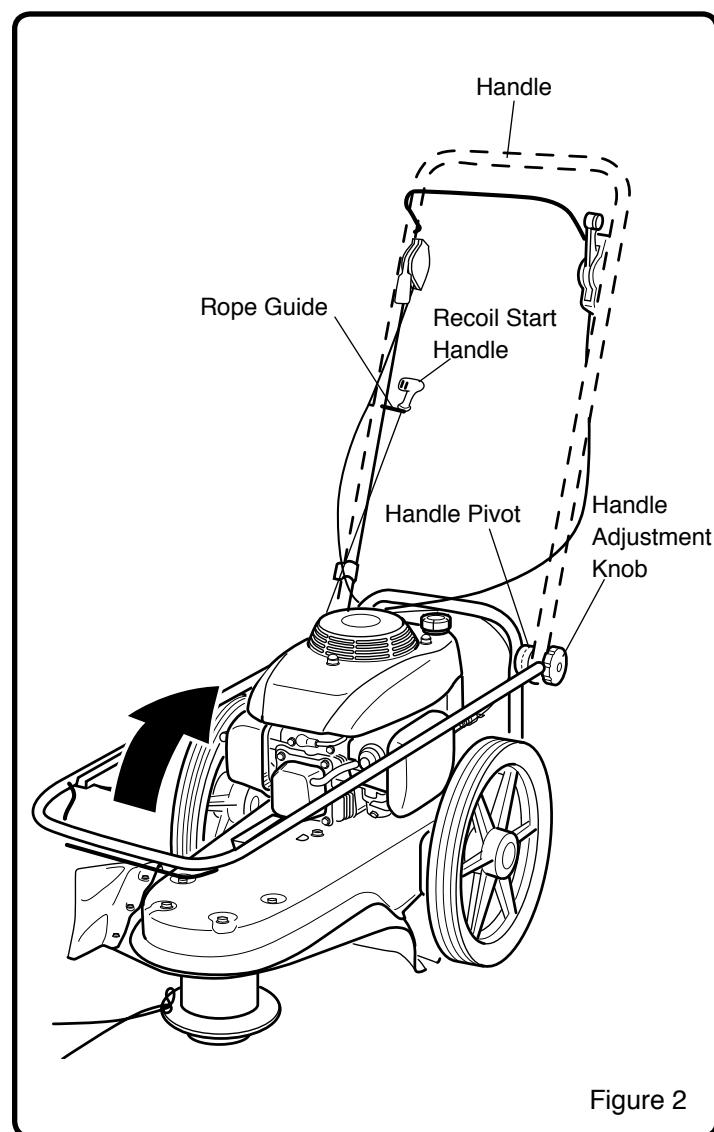

Figure 2
**NOTE: Refer to Figure 2 when following the steps below**